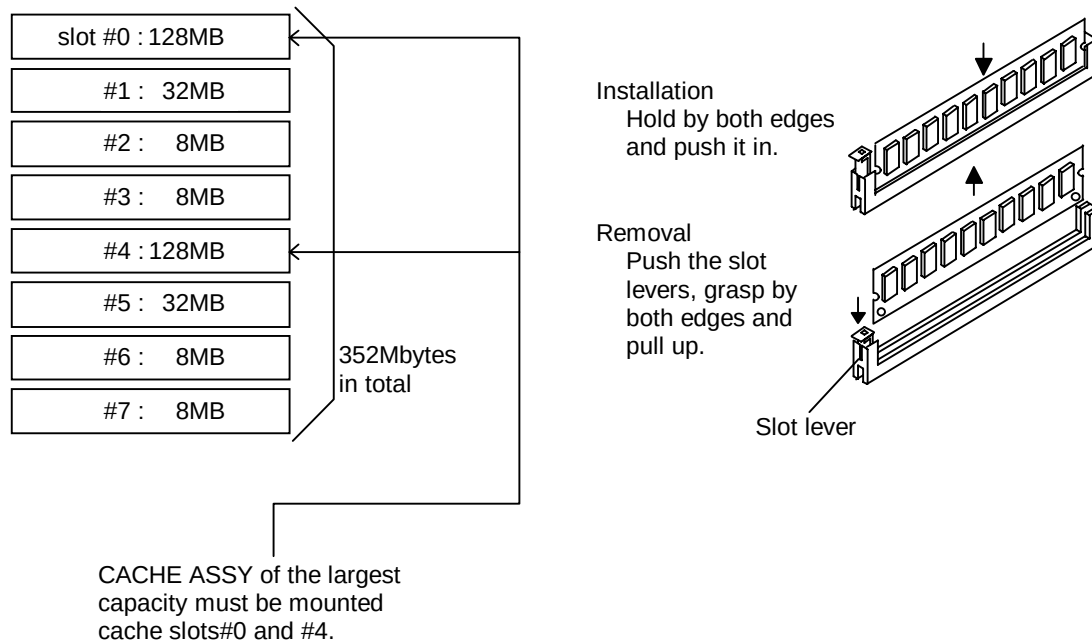

Figure 3.2.7 Installing CACHE ASSY
(6) Installing CACHE ASSY (See Figure 3.2.7.)
- ③ Install the CACHE ASSY. (See Figure 3.2.7.)